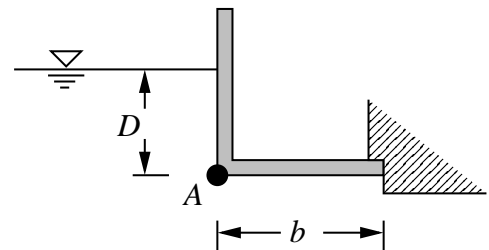

Figure 5: *Right-angle gate.*
5. (10 pts) A simple control system allows liquid to be dumped when its level rises sufficiently (Fig. 5). Specifically, a gate is hinged at point  $A$  and will open by rotating clockwise if  $D$  becomes large enough. Assuming the gate has a depth  $w$  into the paper, at what  $D$  will the gate just start to open if the liquid has a density  $\rho$ ? Assume the vertical section is tall enough, such that the liquid does not spill over the top before the gate opens. Also, assume that the friction in the hinge and weight of the gate (and any moment imparted) are all small enough in this case to be neglected.